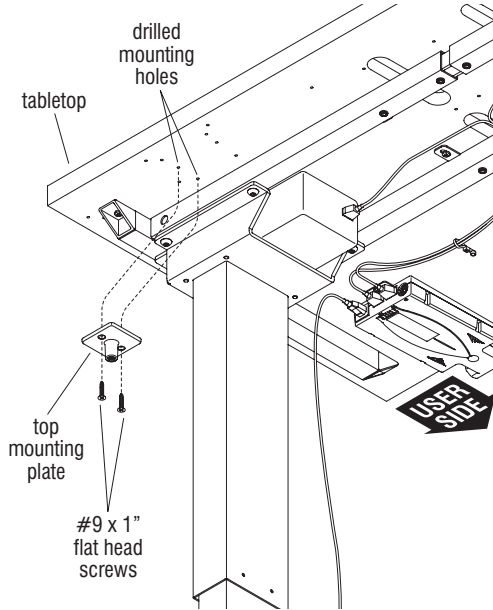

Figure 2
4. Align the mounting holes of the top mounting plate with the pre-drilled holes underneath the tabletop. Secure the mounting plate to the table using two #9 x 1" flat head screws. Take care to not over tighten (Figure 2).